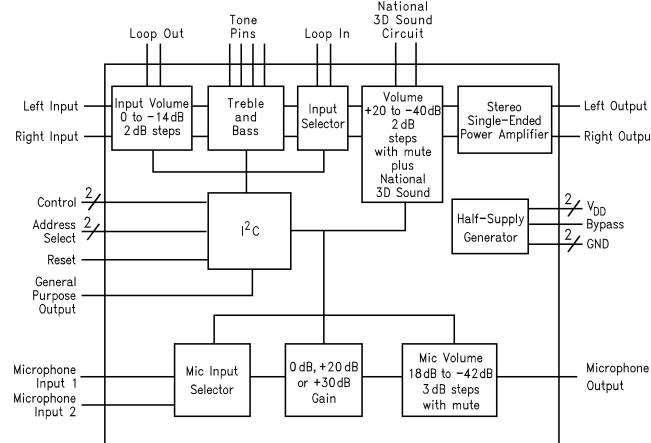

Figure 1. LM4832 Block Diagram
- (1) All voltages are measured with respect to the ground pins, unless otherwise specified. All specifications are tested using the typical applications shown in Figure 1.
- (2) Typicals are measured at  $25^\circ C$  and represent the parametric norm.
- (3) Limits are ensured AOQL (Average Outgoing Quality Level).
- (4) Data sheet min and max specification limits by design, test, or statistical analysis.